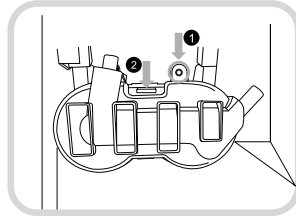

Fig. 6
5. Remove one screw (1) of the Transparent Filter Cover with a Phillips screwdriver (not included) and remove the Cover by pressing the hook (2). (Fig. 6).